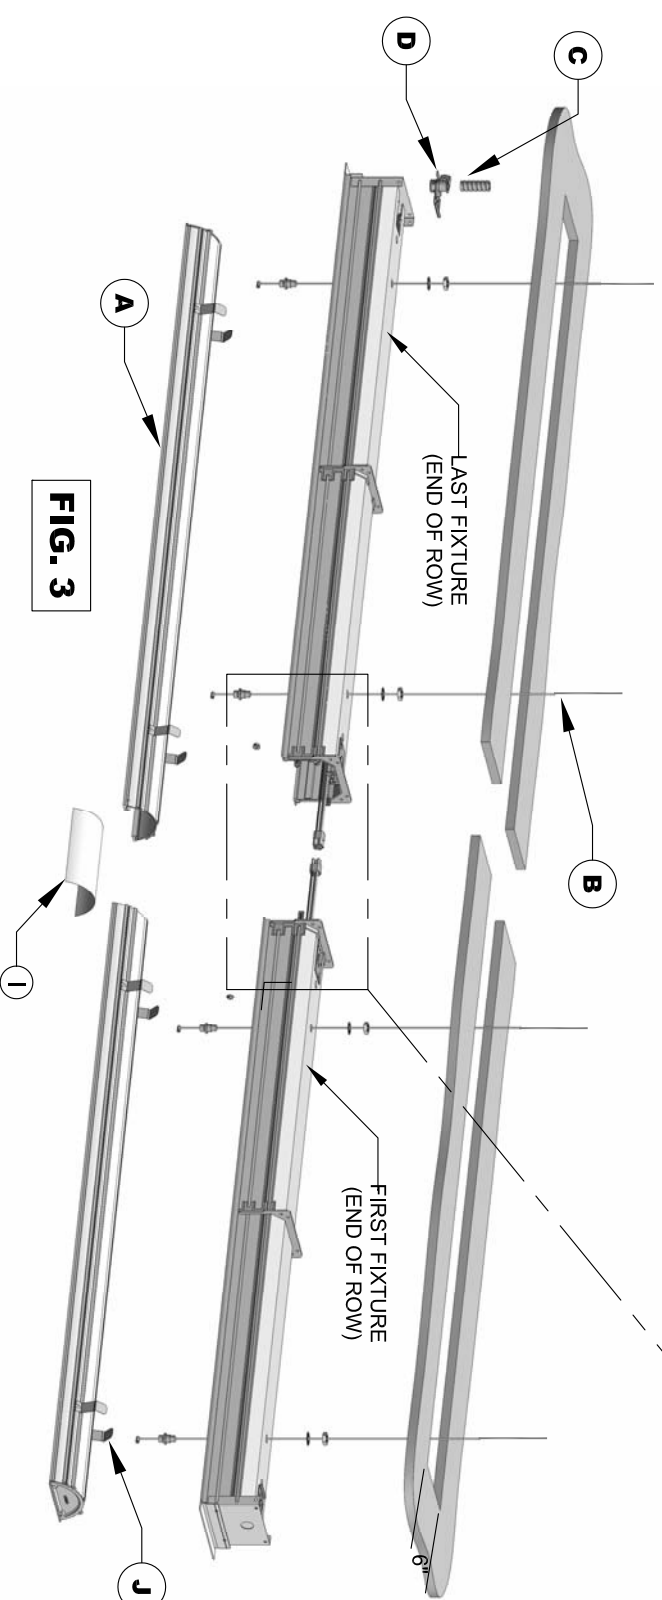

FIG. 3
CEILING CONTRACTOR MUST PROVIDE A 6" CEILING OPENING WIDTH AS INDICATED IN FIG. 3 BY LENGTH AS INDICATED ON FACTORY SHOP DRAWING. (REF. FIG.3). IF YOU ARE NOT IN POSSESSION OF A SHOP DRAWING, CONTACT YOUR LOCAL REPRESENTATIVE OR THE FACTORY TO OBTAIN ONE.
PRIOR TO INSTALLING LEFT HAND END OF ROW FIXTURE, REMOVE ACCESS PLATE (D) AT DESIGNATED FEED LOCATION AND PULL FIXTURE LEADS OUT THROUGH OPENING. REMOVE KNOCK-OUT FROM ACCESS PLATE AND INSTALL FLEXIBLE CONDUIT (C) TO ACCESS PLATE. ATTACH GROUND WIRE TO STUD ON INSIDE OF ACCESS PLATE AND MAKE OTHER WIRE CONNECTIONS MAINTAINING COLOR CODING OF WIRES. PUSH EXCESS WIRE INTO FIXTURE AND SECURE ACCESS PLATE TO HOUSING ENSURING THAT WIRES ARE NOT PINCHED BETWEEN FIXTURE AND ACCESS PLATE. (REF. FIG. 3) CONTINUE TO INSTALL FIXTURE AS DESCRIBED IN STEP 4.
INSTALL REFLECTOR ASSEMBLIES (REF.FIG. 5, PG.4). INSTALL JOINT FILM (I) AT FIXTURE INTERSECTIONS (FIG.3 & 6). ENERGIZE CIRCUIT AND CHECK FOR PROPER OPERATION OF RUN.